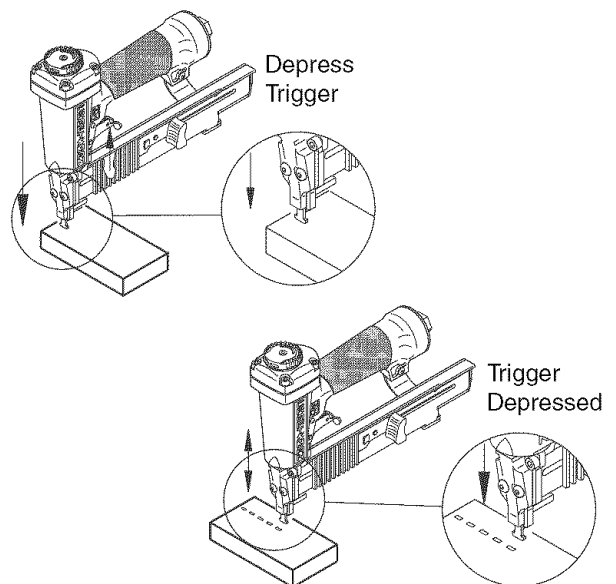

Figure 3
Refer to Figures 3 and 5 (pages 3 and 6).
- The air tool is equipped with a contact trip safety mechanism (see Figure 3) that disables tool unless contact trip is pushed against work. Hold tool handle firmly and press contact trip on workpiece where fastener is to be applied. Pull trigger to drive fastener into workpiece.